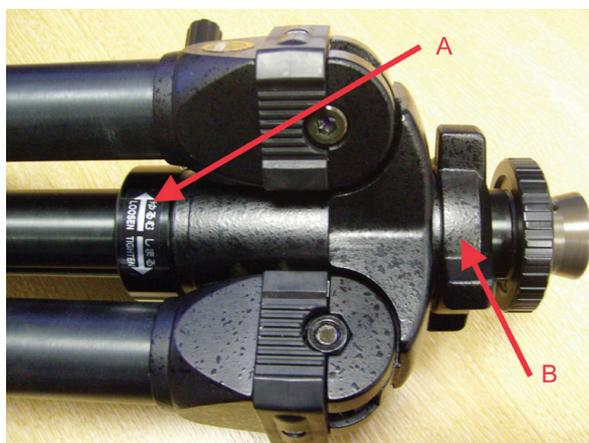

Figure 2
On the main column there are two adjustment nuts indicated by A and B in Figure 2. These can both be used to adjust the tension of the centre column.
1. Release the adjustment nuts A and B in figure 2